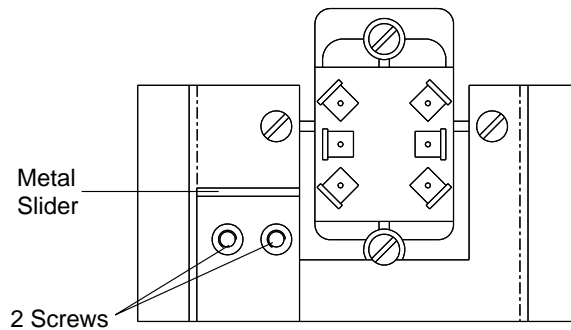

Figure 1-7. UEPO Switch For 3745 Model 130, 150, 160, or 170 (Rear View)
- a. Loosen the two screws shown in Figure 1-7 below.